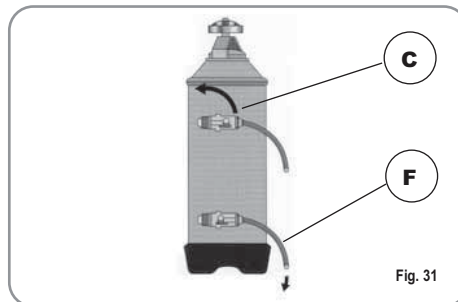

Fig. 31
2) Put the cap back on and reposition lever C moving it towards the left (Fig. 31) and allowing tube F to discharge the salty water until it has been eliminated and the water becomes fresh again (about half an hour).